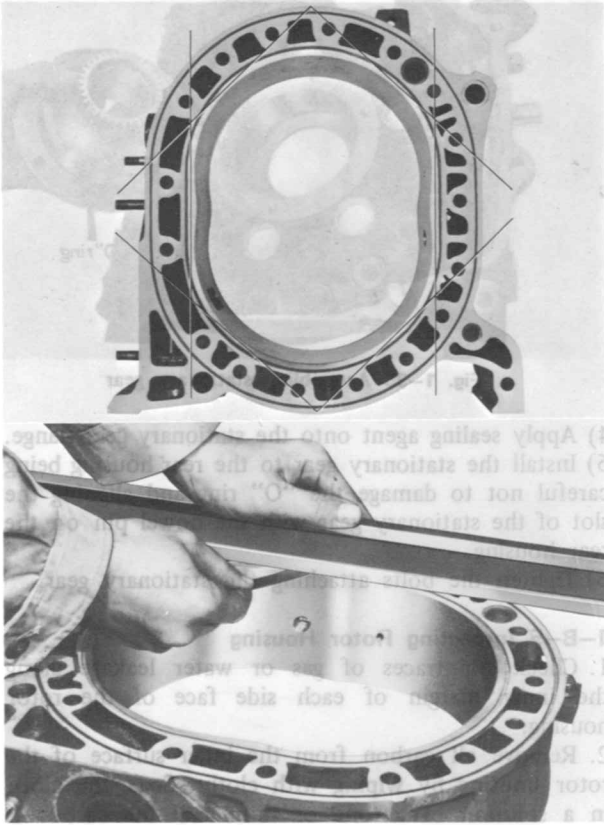

Fig. 1-37 Checking distortion
6. Check for rotor housing distortion by placing a straight edge at the position shown in Fig. 1-37. Measure the clearance between the straight edge and rotor housing surface with a feeler gauge. If the distortion exceeds **0.04 mm (0.0016 in)**, replace the rotor housing. This check should be done whenever the engine is overhauled.